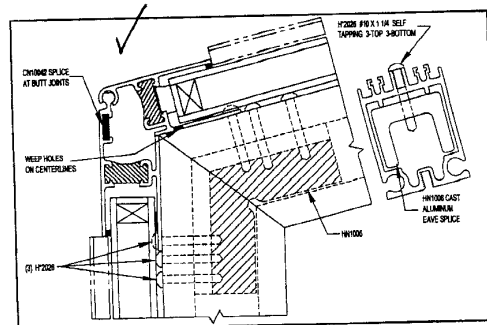

FIGURE 9-2
- 9.3 To fasten the splice channel, four #10 x 1 1/2" PPSMNS screws are used. For these screws, four pilot holes (11/64" dia.) must be drilled into the splice channel and four clearance holes into the glazing bar. See **Figure 9-2**. The eave will be secured with two #10 x 1 1/2" screws. One into the roof bar and one into the front bar.